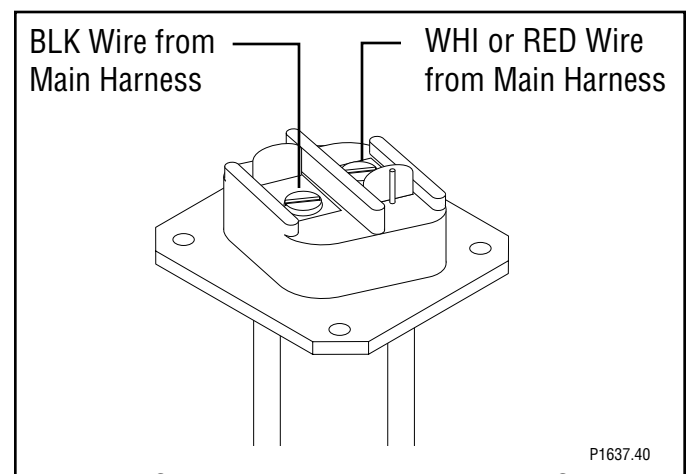

FIG. 47 TANK HEATER TERMINALS
15. Refer to Fig. 47 when reconnecting the wires to the tank heater.